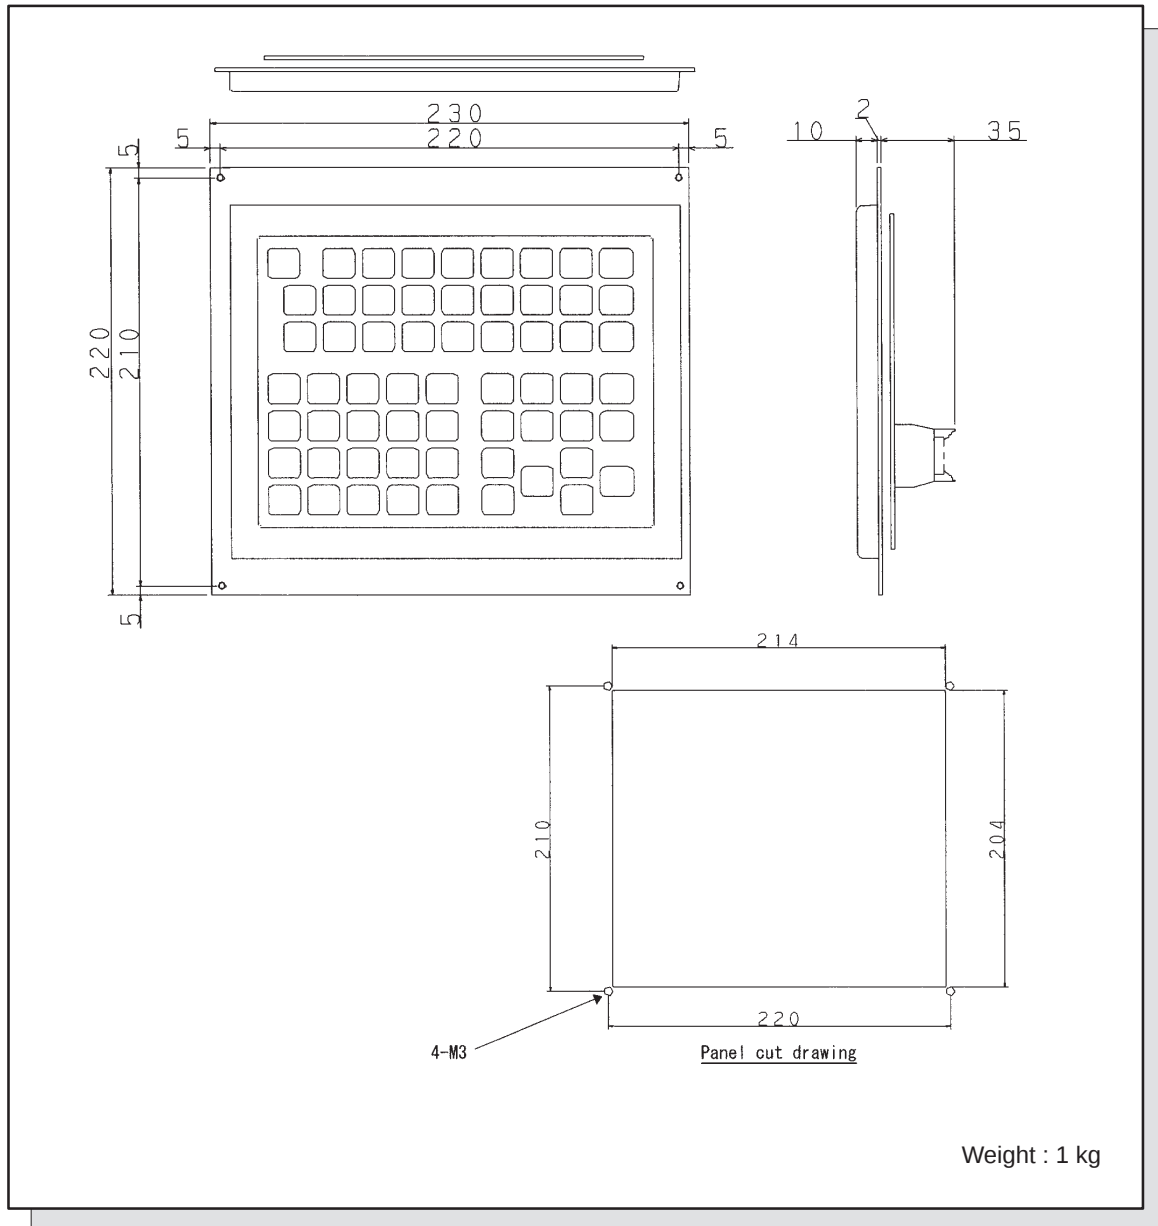

Fig. 15 10.4" COLOR LCD (SEPARATE TYPE)
10.4" color LCD (separate type)	Fig. 15